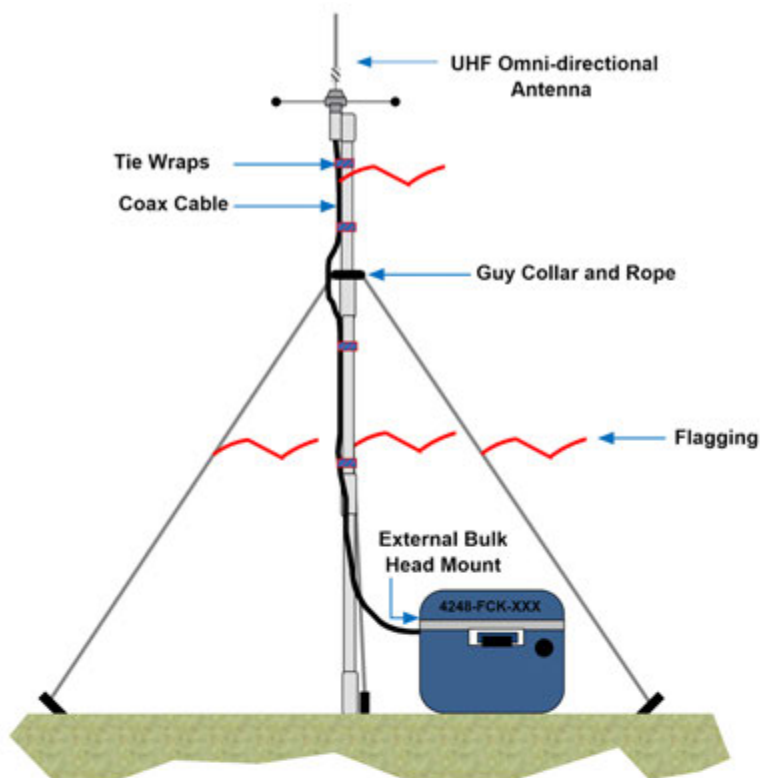

Figure 1:
1. **Antenna Installation** (See Figure 1)